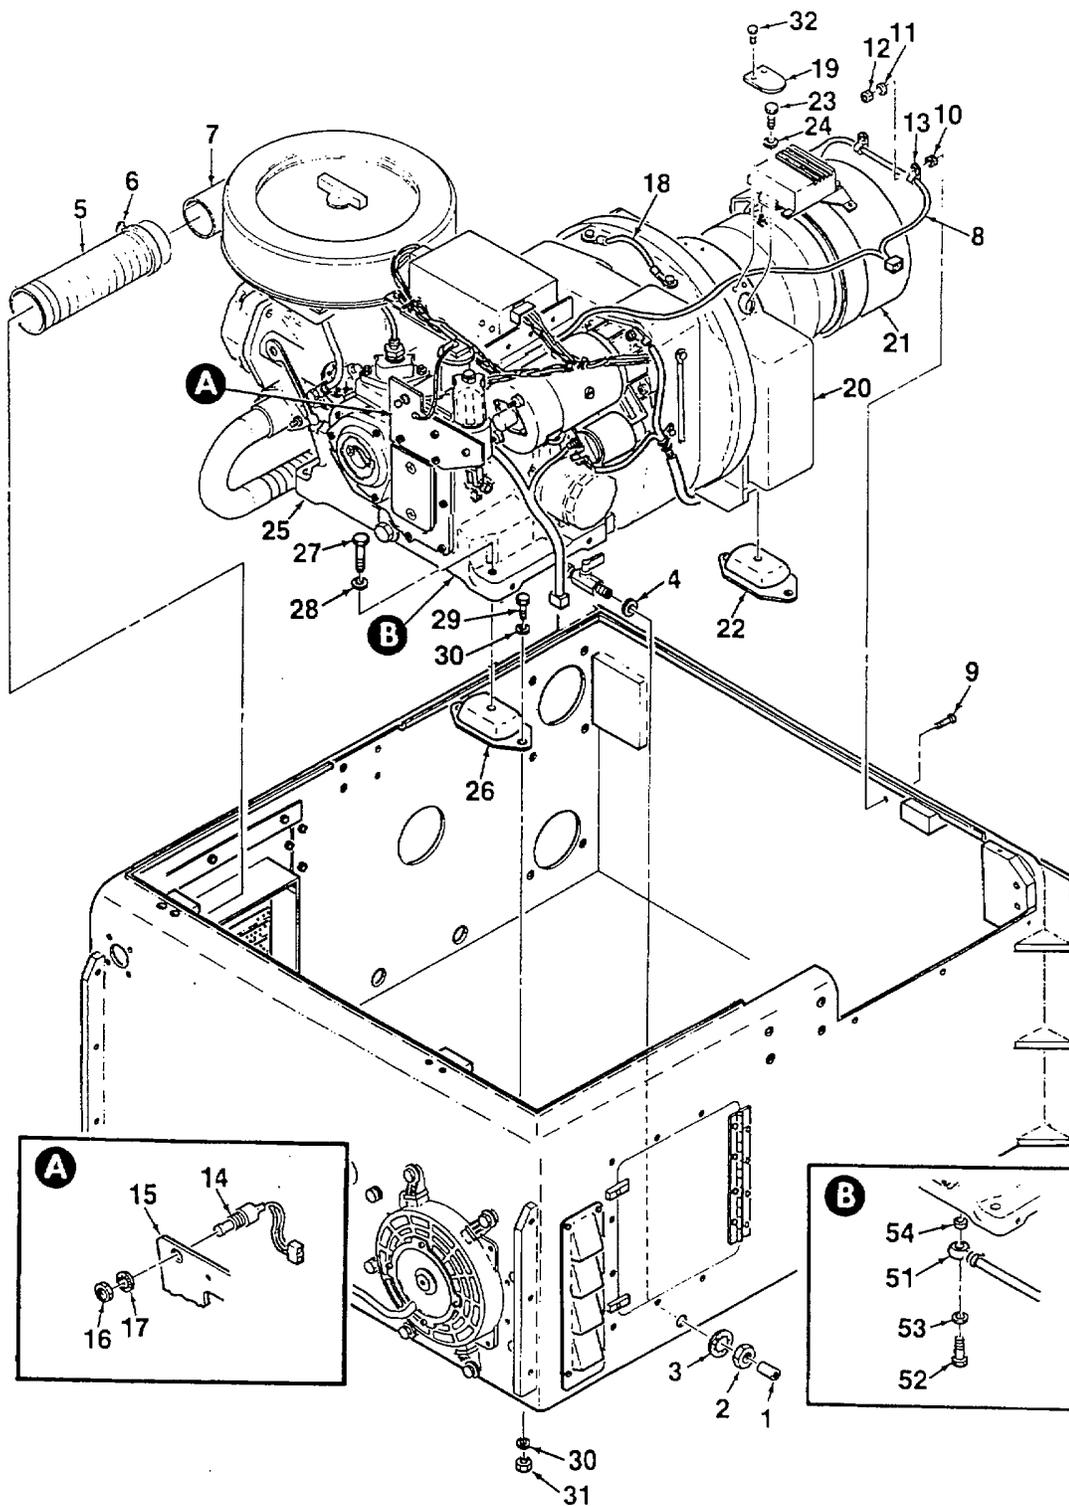

Figure 5-1. Engine /Alternator Assembly
2. Remove oil drain plug (1, Figure 5-1), nut (2), and washer (3) to release oil drain assembly from APU enclosure. Remove and retain washer (4).
3. Remove air inlet hose (5) from engine air filter (7) by loosening clamp (6).
4. Release electrical wiring harness (8) from back wall of APU enclosure by removing screws (9), nuts (10), washers (11), and nuts (12). Remove clamps (13) only if replacement is required.
5. Remove manual start switch (14) from mounting bracket (15) by removing nut (16) and washer (17).